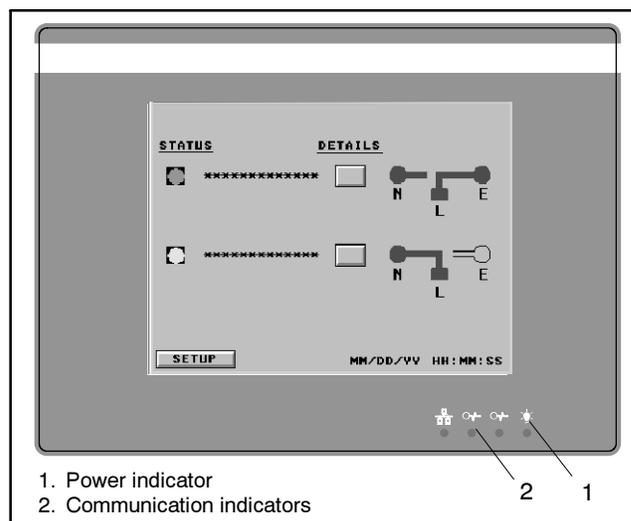

Figure 9 Annunciator LEDs
2. Four LEDs indicate the annunciator status. See Figure 9. The rightmost LED lights to indicate power to annunciator. The other LEDs light and flicker to indicate communication between the annunciator and the transfer switch network. If the communication LED flashes steadily, the annunciator is not communicating with the transfer switch network.